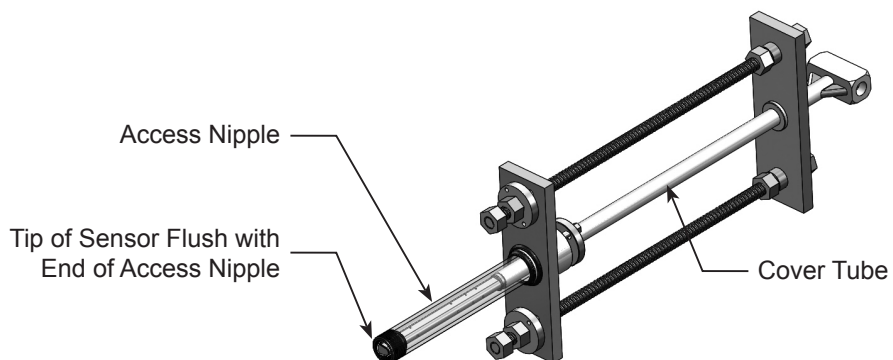

Figure 3. Access Nipple
- Retract the Verabar® such that the tip of the sensor is flush with the end of the access nipple (Figure 3). Tighten the three packing bolts on the packing gland.